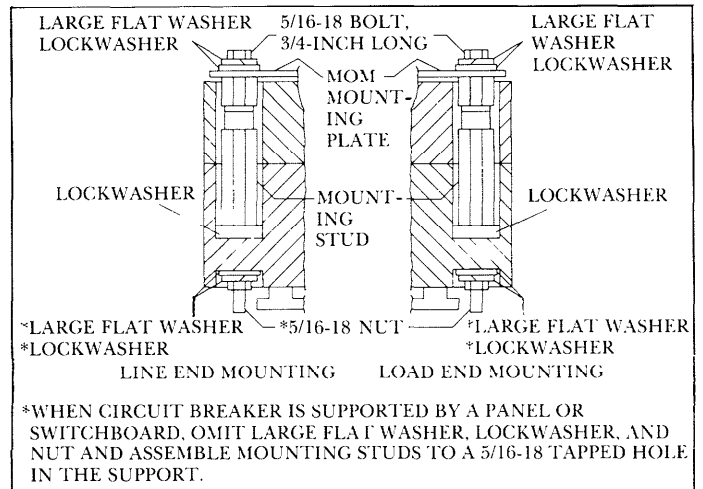

Figure 3. Mounting hardware installation.
5. Install motor-operating mechanism using bolts and washers supplied. See Figure 3.